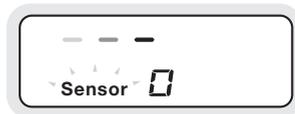

fig.4
6. The SmartHub should pair to the Transmitter and display '240' on the screen (fig. 4). This is the Transmitter voltage. 240 volts is the approximate voltage of most UK properties. If you know your property voltage level is different, use the Circuit Transmitter to change it. To do this, press and hold the tuning button for 3 seconds. The voltage will cycle through 200V to 260V in 10V steps on the screen. When the screen shows the correct voltage for your property, release the tuning button.